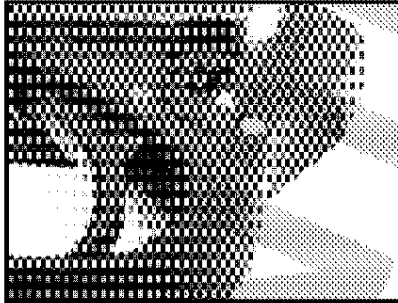

Figure 1 - ISS locked, safety in "On-Safe" Position
- With the bolt in the locked open position and safety in the "On-Safe", using the ISS key, lock the ISS System in the secure mode (White pointer lined up with the White dot -See Pictures, Fig. 1) and then remove the key.
- Start with the safety in the "On Safe" position and ISS system in the locked position (**White** pointer lined up with the **White** Dot - See Figure 1).
- Rotate the ISS to the locked position (**White** pointer lined up with the **White** dot - See Figure 1) using the ISS key.